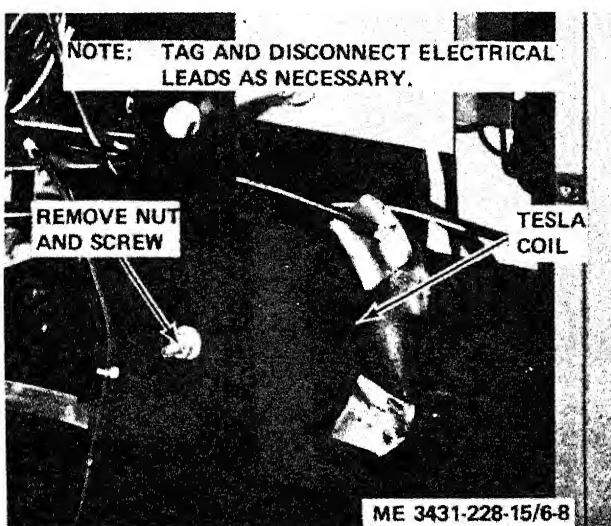

Figure 6-8. Tesla coil, removal and installation.
- (1) Disconnect ac power from the welding machine.
- (2) Remove the top and housing (para 3-20).
- (3) Refer to figure 6-8 and remove the tesla coil.
- (1) Refer to figure 6-8 and install the tesla coil.
- (2) Install the top and housing (para 3-20).